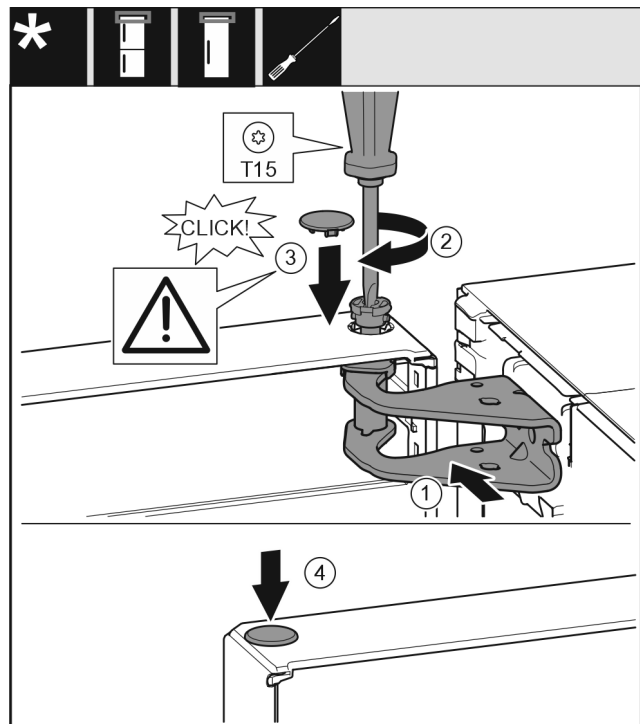

Fig. 20
- Align the top of the door with opening in the bearing bracket. Fig. 20 (1)
- Insert the bolt Fig. 20 (2) and use screwdriver to tighten it.
- Fit the safety cover Fig. 20 (3) to secure the door: Insert the safety cover and check whether the door is resting on it. Otherwise, insert the bolt fully.
- Insert the plug Fig. 20 (4).